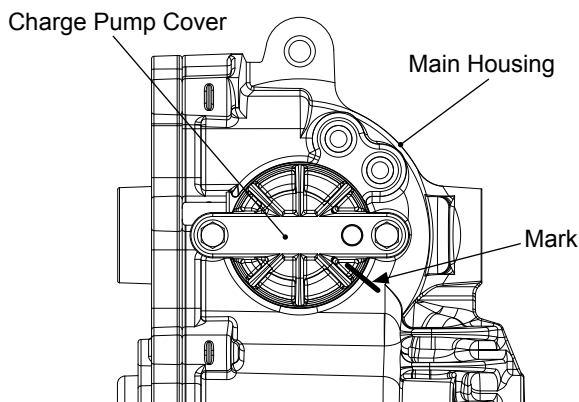

Figure 21, Charge Pump Cover Orientation
1. Mark the orientation of the charge pump cover relative to the main housing, prior to removal. Refer to figure 21.
2. Remove the hex head screws (134), charge pump cover, gerotor assembly, and the O-ring (132). Remove the connecting tubes (130) at this point – *only if the center section will be removed*. A pick type tool can be used to remove the connection tubes.